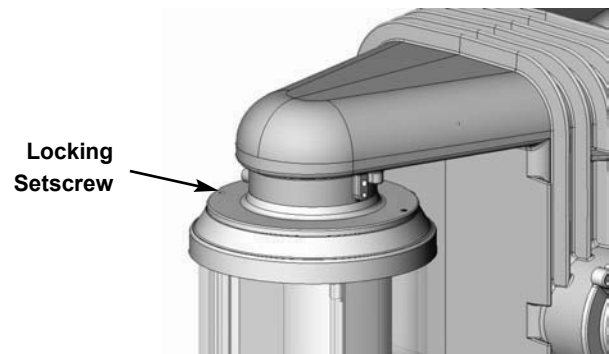

Figure 1
2. Disengage locking set screw located on Socket Holder. See Figure 1.